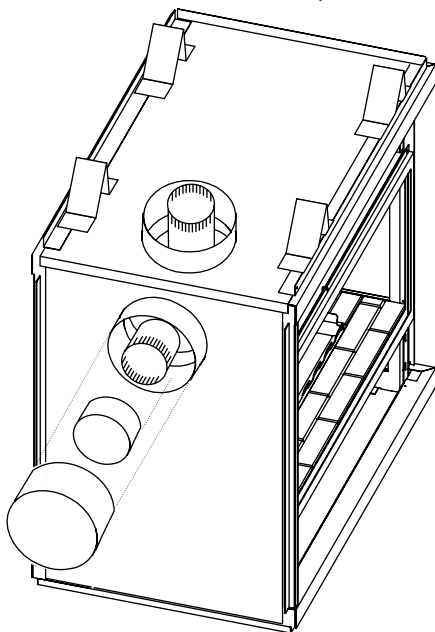

Figure 5a. Installing the flue cover.
2. Install both the inner and outer flue covers on the rear vent flue collar as shown in figure 5a.